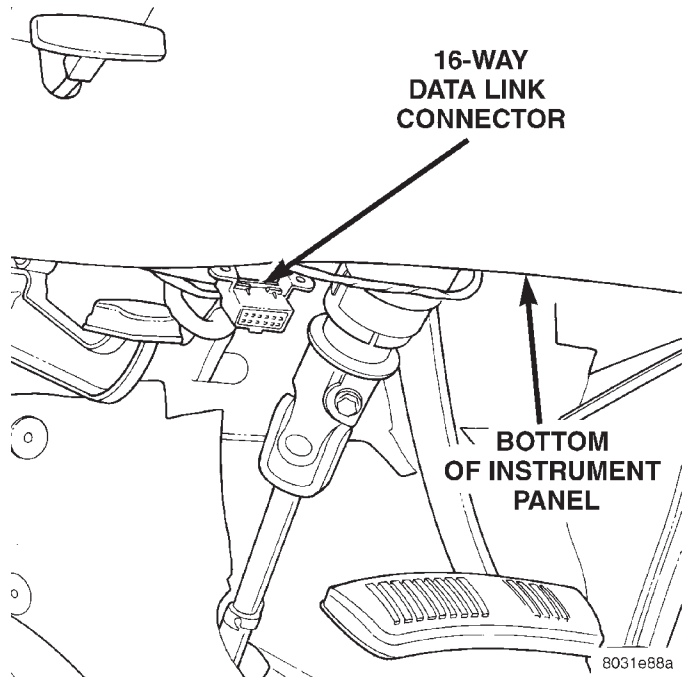

Fig. 1 16-Way Data Link Connector - Typical
(1) Disconnect and isolate the battery negative cable. If the airbag has not been deployed, wait two minutes for the system capacitor to discharge before further service.
(2) Connect the DRB scan tool to the 16-way data link wire harness connector. The connector is located on the driver side lower edge of the instrument panel, outboard of the steering column (Fig. 1).